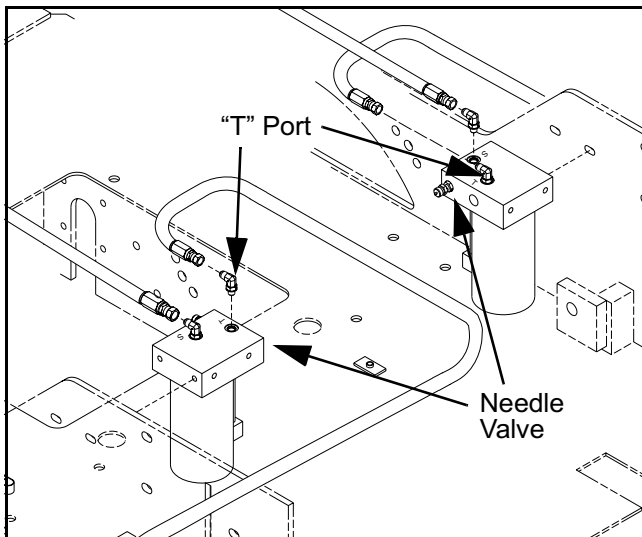

Figure 3 - 23 Adjusting steel track tension
- 1) Disconnect the line from the “T” port on the track tension cylinder. Install a plug into the disconnected line. (Figure 3 - 23)